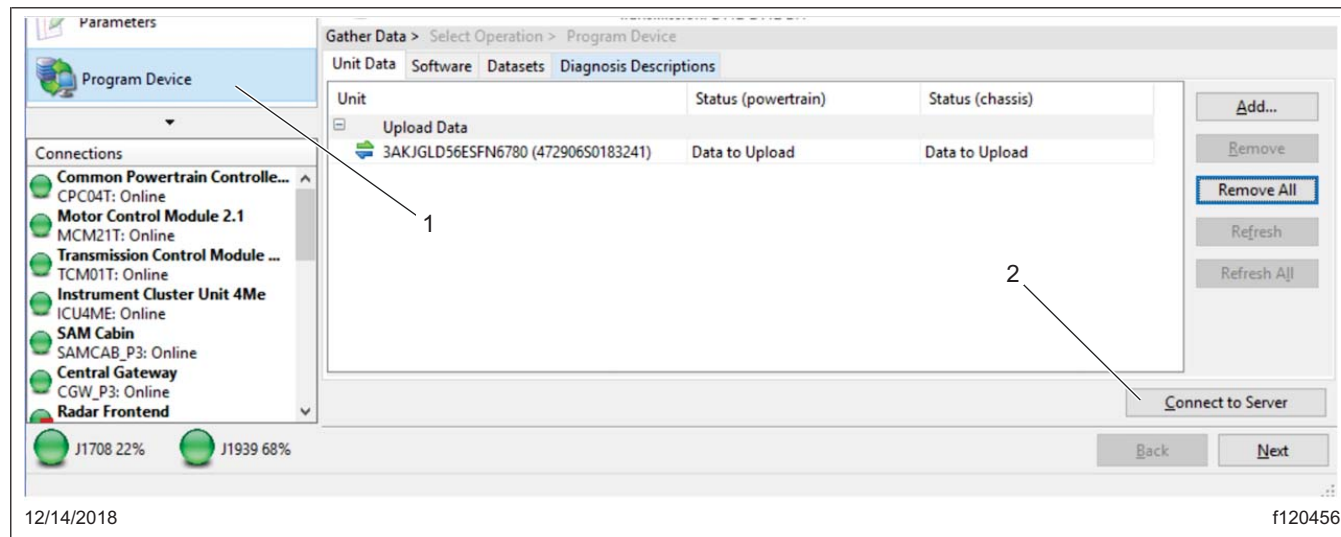

Fig. 5, Uploading Vehicle Parameters
6. Select "Program Device." There should be data to upload. Click "Connect to Server" to upload vehicle parameters to the server. See Fig. 5.